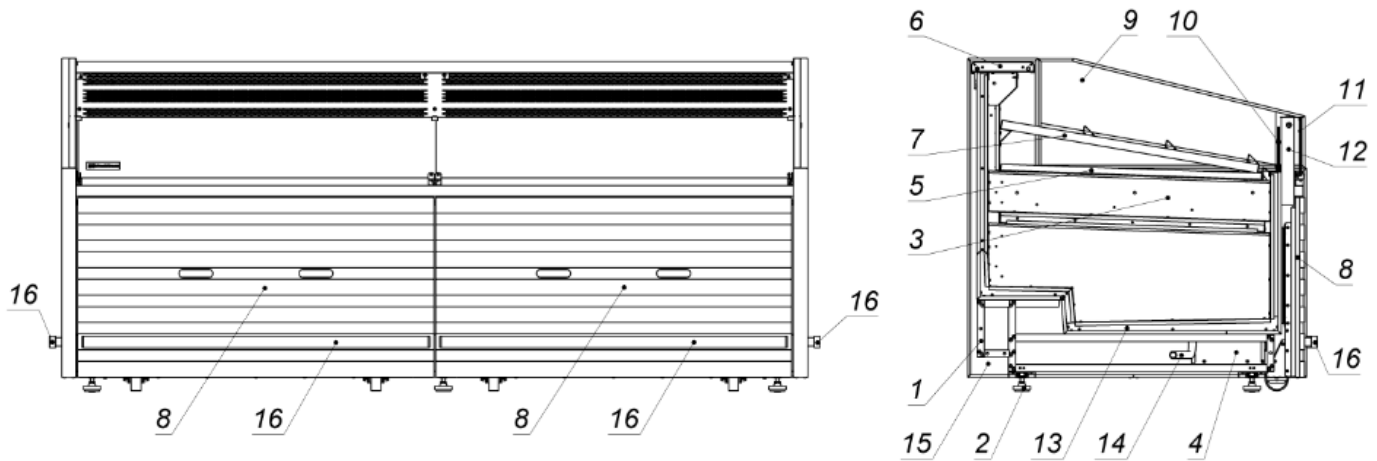

Figure 2 – Arrangement of major units and components
- set the power circuit-breaker on the control panel (pos. 4 Fig. 2) to the position corresponding to “ON”. Turn on the lighting switch;